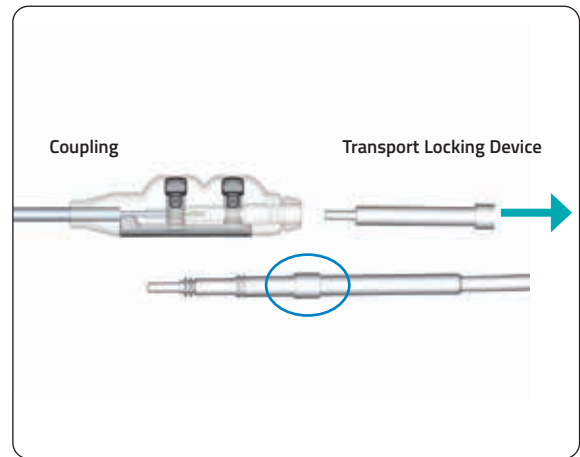

Fig. 60 Transport locking device removal and white ring
Remove the Transport Locking Device from the Receiver's Coupling, place a drop of sterile water on the plug of the cable, and insert into the coupling. (Fig. 60)
**PRECAUTION:** make sure the white ring (see blue circle in Fig. 60) is in connection with the start of the coupling.